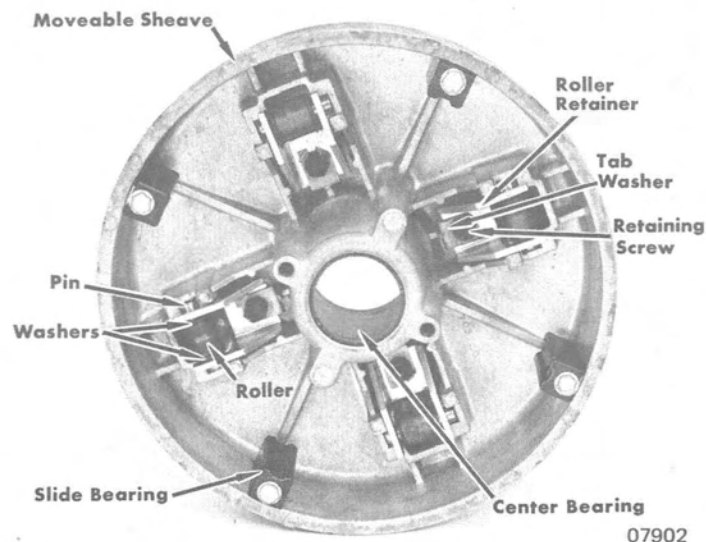

Figure 3. Moveable Sheave and Rollers
- b. Remove screws, tab washers and roller retainers. (Figure 3)
**CAUTION: DO NOT** remove sheave slide bearings or plastic center bearing (Figure 3), unless replacement is necessary.